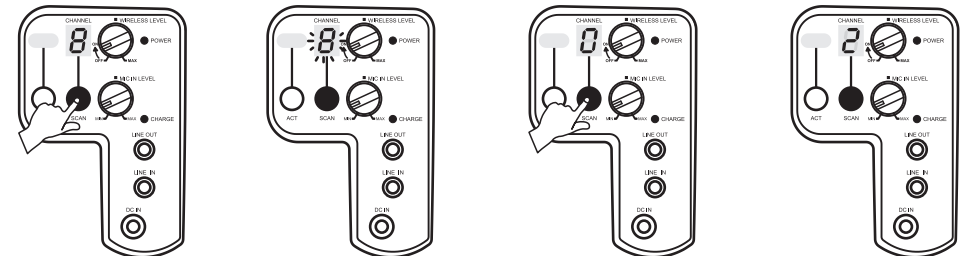

Fig. 3
- Manually Selecting a Channel: Press and hold the Channel SCAN button **6** for 1 second. Channel indicator blinks and displays current channel. During channel blinking, press and hold Channel SCAN button to force the receiver to change to the next available programmed channel. Once blinking stops, the new channel is saved automatically, See Fig. 3.